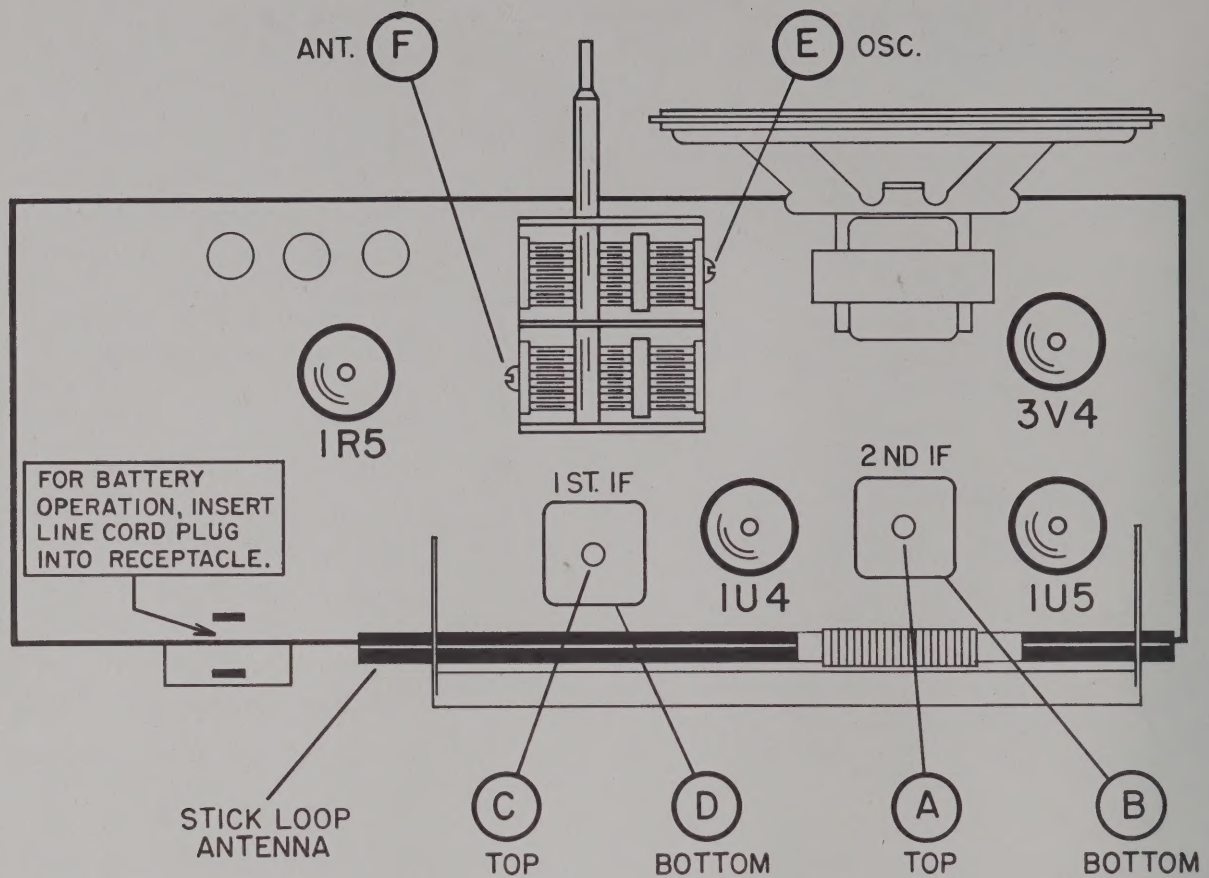

Fig. 1. Top View of Chassis Showing Location of Alignment Adjustments and Tubes
- Refer to Fig. 1 for location of alignment adjustments.